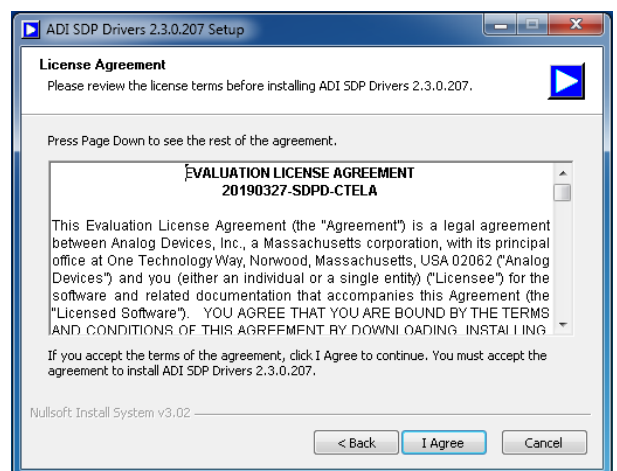

Figure 12. **ADI SDP Drivers (v2.3.0.207) License Agreement** Window
- Installing the **ADI SDP Drivers 2.3.0.207** requires the user to accept the license agreement that appears in Figure 12. Read the agreement before clicking **I Agree** to proceed.